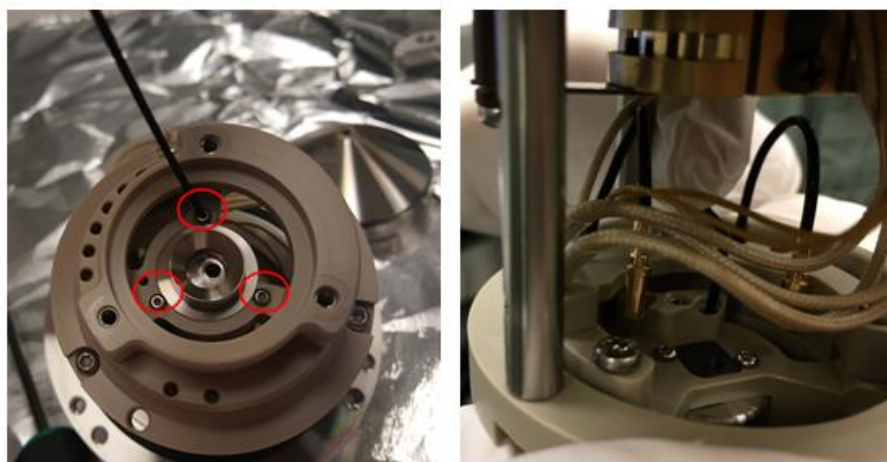

Figure 120: Removing Tube Lens Screws
- 17) Remove the three screws holding the tube lens in place. To remove the tube lens, press on the electrical pin through the second hole where the jumper was unplugged using a tool like an Allen wrench. See Figure 120.